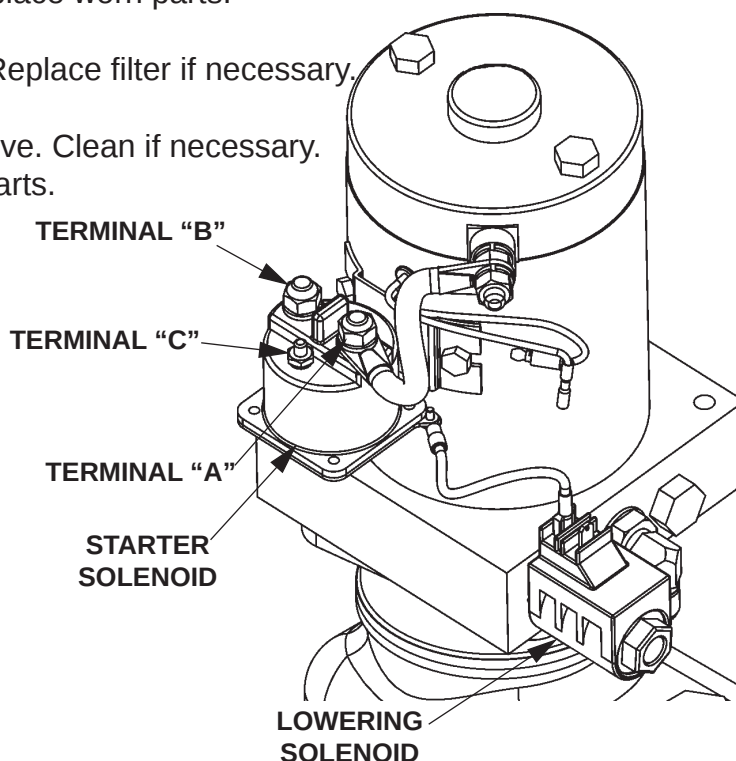

FIG. 73-1
(FIG. 73-1.) Recharge the battery if less than 12.6 volts.
3. Touch a jumper wire to terminals "B" & "C" (FIG. 73-1). If motor runs check Switch, switch connections, and White wire. Check and correct wiring connections or replace the Switch.
4. Touch heavy jumper cables to terminals "A" & "B" (FIG. 73-1).